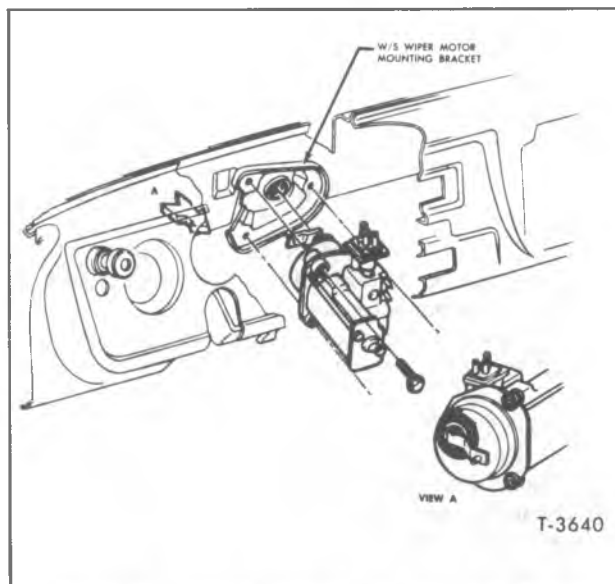

Figure 11—Wiper Motor Installed (Conv. Cab Model)
(Refer to Figure 11)
6. With harness disconnected from motor, try operating motor as shown in figure 11. If wiper fails to operate, remove wiper transmission linkage and recheck wiper operation. If wiper operates, linkage is at fault. If wiper does not operate, remove unit from vehicle for disassembly.